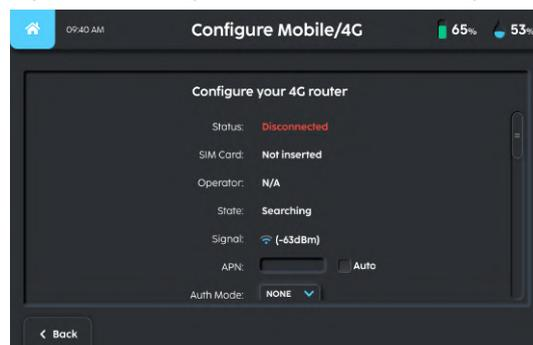

FIGURE 7-8
- The user may configure mobile/4G settings (**Fig. 7-8**).